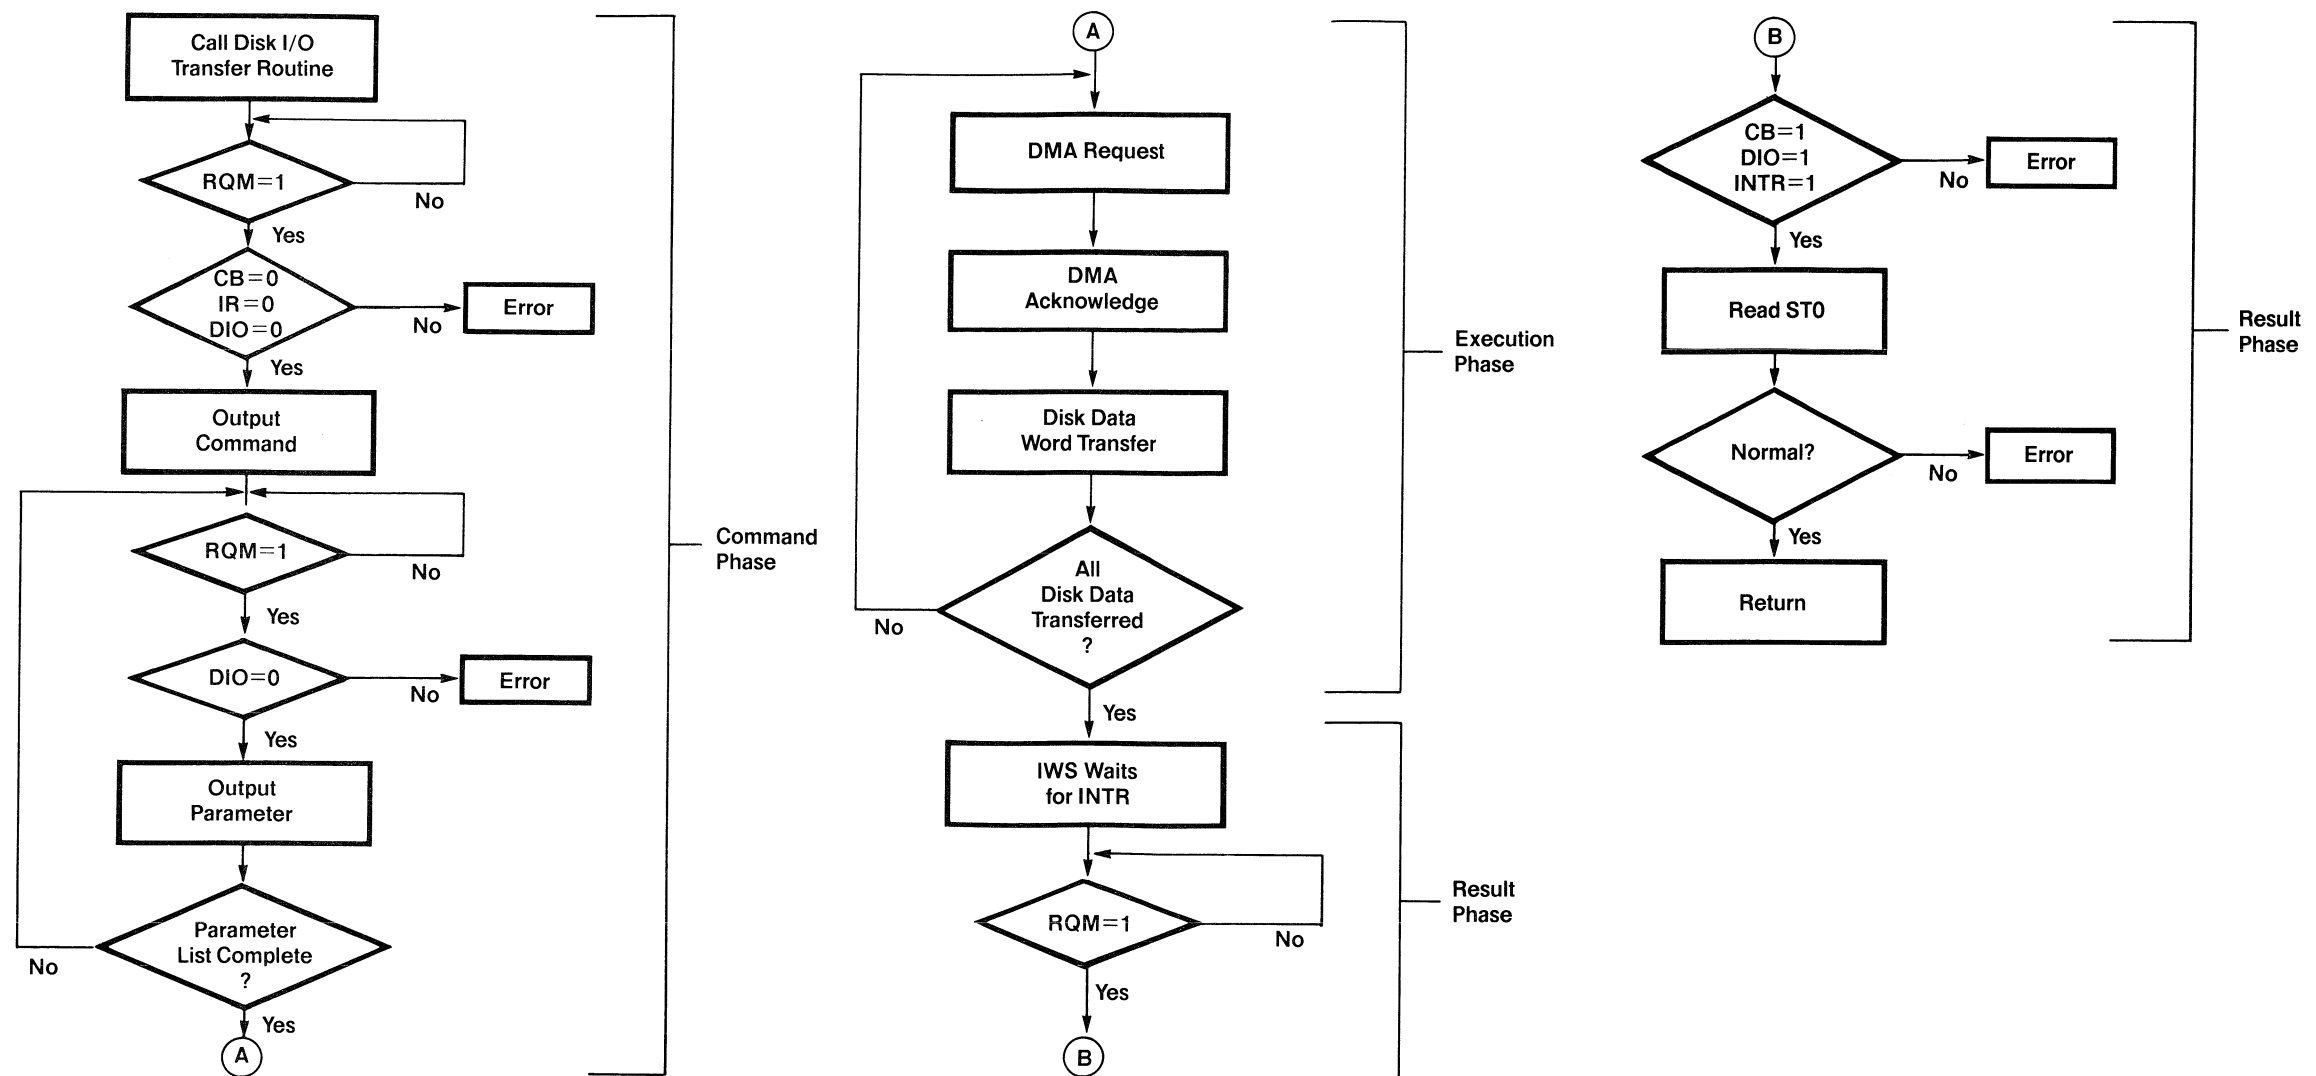

Figure 2-3. Data Input/Output Transfer Routine.
When the SMD Controller board receives the required number of bytes for a command from the IWS workstation, the command is executed. This input/output transfer routine, shown in Figure 2-3, is described as three phases in the following subsections: the Command phase, the Execution phase, and the Result phase.
The general data input/output transfer routine, illustrated in Figure 2-3, follows:
4. After issuing the command byte, the IWS workstation again reads port 7Ah for RQM and DIO bits (referred to as parameters in Figure 2-3).